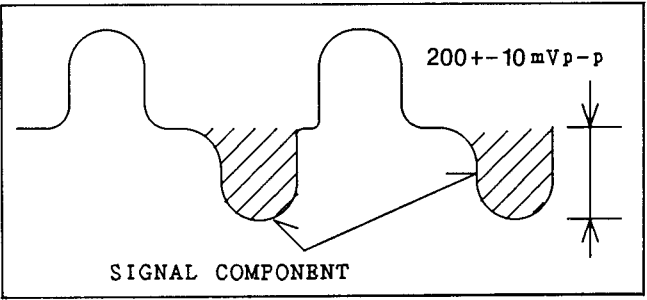

Fig. C8
- (1) Aim the camera at the J chart and focus the lens on the object.
- (2) Connect the oscilloscope to TP201.
- (3) Adjust VR202 so that the signal level is 200 $\pm$ 10mVp-p as shown in Fig. C8.